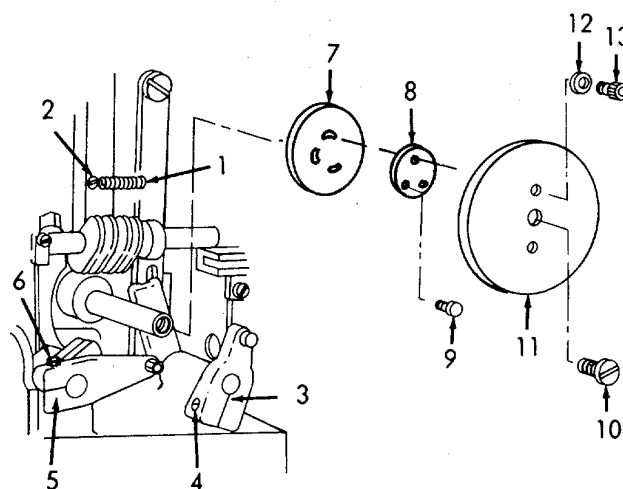

Figure 6-156. Cam and Cam Arms, Installation.
- (11) Refer to Figure 6-156. Install spring (1) and two screws (2).
- (12) Install rear cam arm (3) and tighten setscrew (4).
- (13) Install front cam arm (5) and tighten setscrew (6).
- (14) Install small cam (7), plate (8), and three screws (9). Be sure that the timing mark on the cam is aligned with the timing mark on the gearshaft.
- (15) Install large cam (11), two washers (12), and two screws (13). Be sure hole in cam (11) aligns with the drilled mark in the small cam (7).
- (16) Install left-hand threaded screw (10).
- (17) When aligning large cam (11) and small cam (7), be sure that the two/four button selector knob and the button clamp vibrator regulator (yellow knob) are both set to their maximum values.